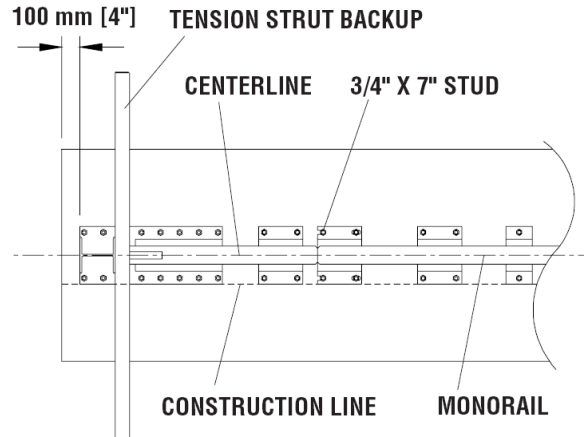

Figure 54
B) Monorail Assembly for Tension Strut Backup (Figure 54).
Locate Monorail on foundation with side of Monorail on the construction line and rear edge of Backup foot 4" forward of edge of foundation (Figure 54).